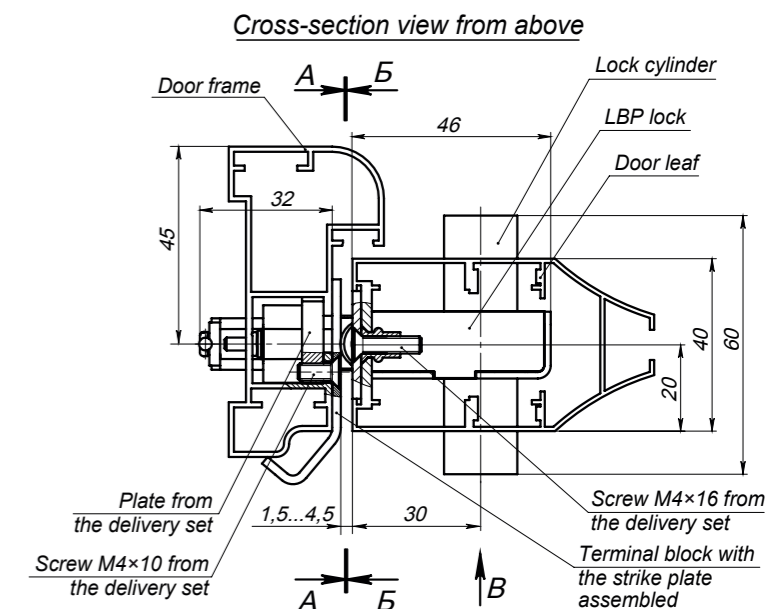

Fig. 2. Lock with the terminal block BP-1 assembled (views A, B and B are indicated in the installation templates)
- Door leafs T34, T53, T81, T85 and the door frame T72-14 (manufactured by «Petralyum» LLC) or equivalent dimensionally (Fig. 2).
3. **For the lock with the strike plate BP-1.** Mount the lock (1) in a location slot in the door leaf and fix it with two screws M4×16 (5) from the delivery set. (Fig. 2).
- **For the Strike plate BP-1.** Mount two plates from the delivery set in the door frame and fix them with screws M4×10 (Fig. 2). Mount the strike plate (6) assembled with the terminal block (7) in a ready-made location slot in the door frame. Fasten the strike plate with two screws M4×10 (9) from the delivery set.
- **For the Strike plate BP-2.** Mount the strike plate (6) assembled with the terminal block (7) in a ready-made location slot in the door leaf. Enclose posts from the delivery set under the strike plate attachment points and fix the strike plate with screws M4×25 (9).